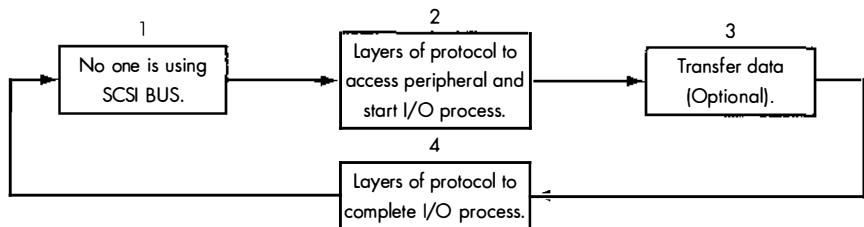

Figure 7.11: SCSI Protocol
SCSI uses a method to transfer data between devices on the bus in a circular process that starts and ends in the same layer—that is, the bus must go through specific steps in a prescribed order. From the first layer, additional layers of protocol must be executed before any data is transferred to or from another device, and layers of protocol must be completed after the data has been transferred to end the process. Figure 7.11 shows this process.
*The diagram in Figure 7.11 assumes no disconnection occurs (disconnection is covered in the section titled “Disconnect” in this chapter).*
*In Table 7.3, the terms “In” or “Out” are based upon the initiator’s perspective. The numbers next to the bus phase refer to the illustration in Figure 7.11.*